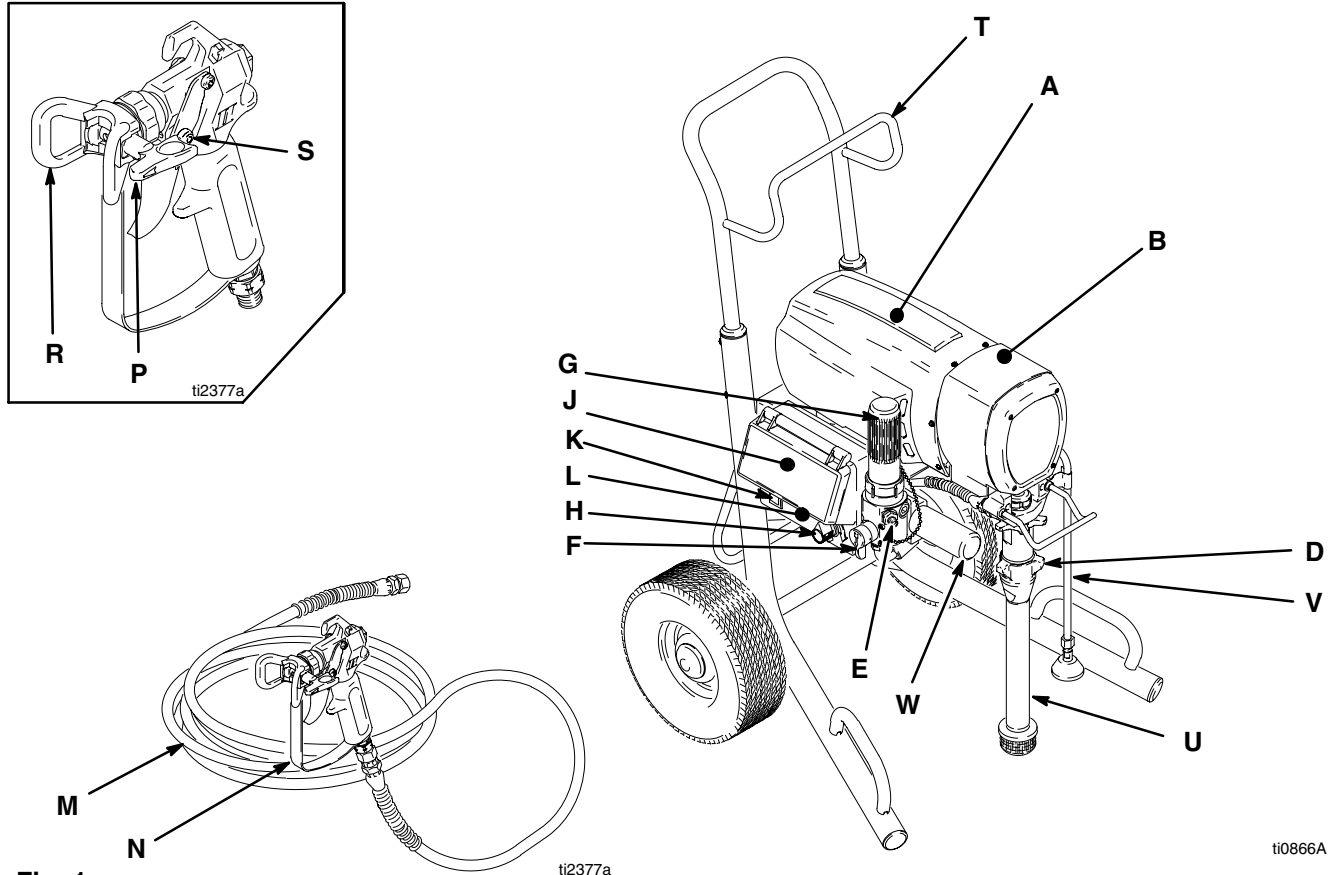

Fig. 1
1. All models require a grounded outlet for power connection. Circuit must be 50/60 Hz with an Ampere rating equal to or greater than the sprayer. Set Ampere switch (L, Fig. 1) to lower setting if needed.